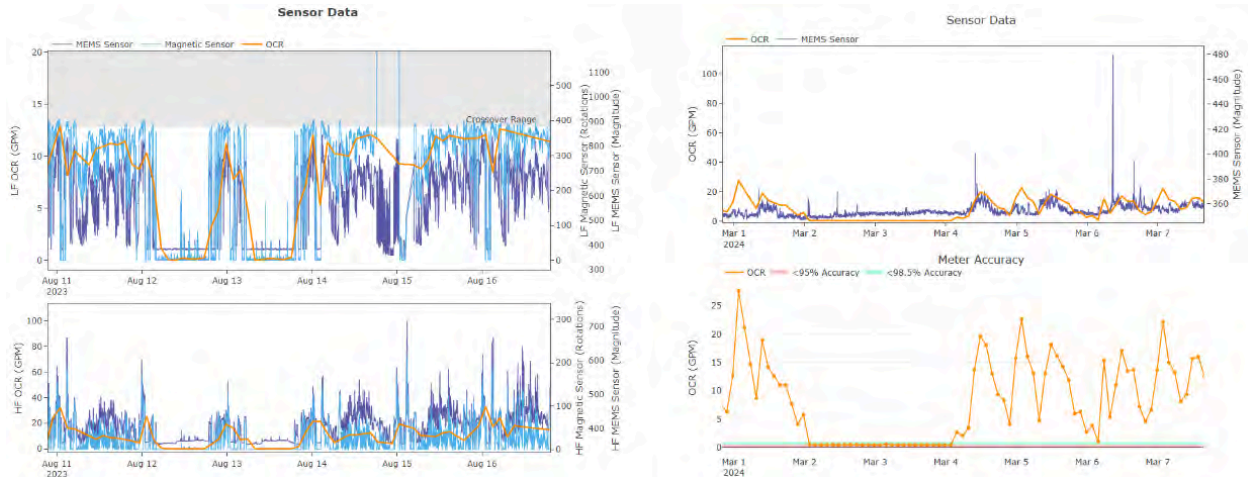

Figure 40 - Pre and post meter repair comparison
- This new meter is correctly sized for the flow received during the validation phase. The new meter is now recording up to 30 GPM of flow, compared to the previously recorded combined flow of 40 GPM (Figure 40).